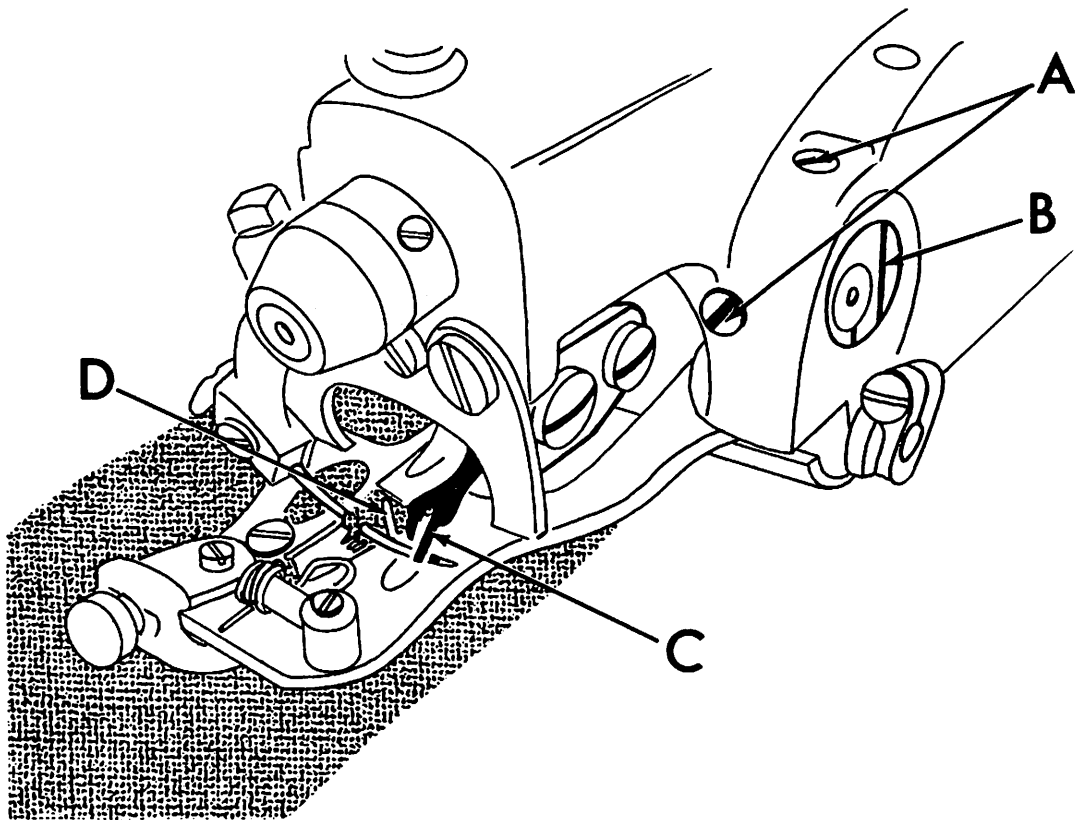

FIGURE 7
2. Any time a looper is moved or changed, recheck the looper timing and reset if necessary. Proper looper timing is absolutely essential for correct stitch formation. As described in detail below, a properly timed looper will pass over the needle in the correct position to pick up the loop, and also clear the chain-off pin, feeder, looper slot, and needle. The first check point for timing the looper is at the position where the looper picks the thread loop off the needle during the needle return stroke. Referring to Figure 7, (Point "C"), the long prong of the looper should pass over and just clear the scarf of the needle, approximately $\frac{3}{32}$ " (2.4mm) behind the end of the needle eye. At the same time, the short prong of the looper should pass over the needle with about $\frac{1}{64}$ " (.406mm) clearance, and must be so set that it also clears the chain-off pin (item "D" in Figure 7).
5. If, after completing the above adjustments, it is found that the looper is either too low or too high, it will be necessary to adjust the eccentric block. First loosen the two set screws (item "A" in Figure 7). Place a wide blade screwdriver in the slot of the eccentric block (item "B" in Figure 7) and, using a slight turning motion, raise or lower the looper as required. Once the proper height is established, check to see whether the looper must be moved to the left or to the right prior to re-tightening the eccentric block set screws. If such a movement is required, it may be obtained by lightly tapping the eccentric block in the correct direction with the handle of a screwdriver.